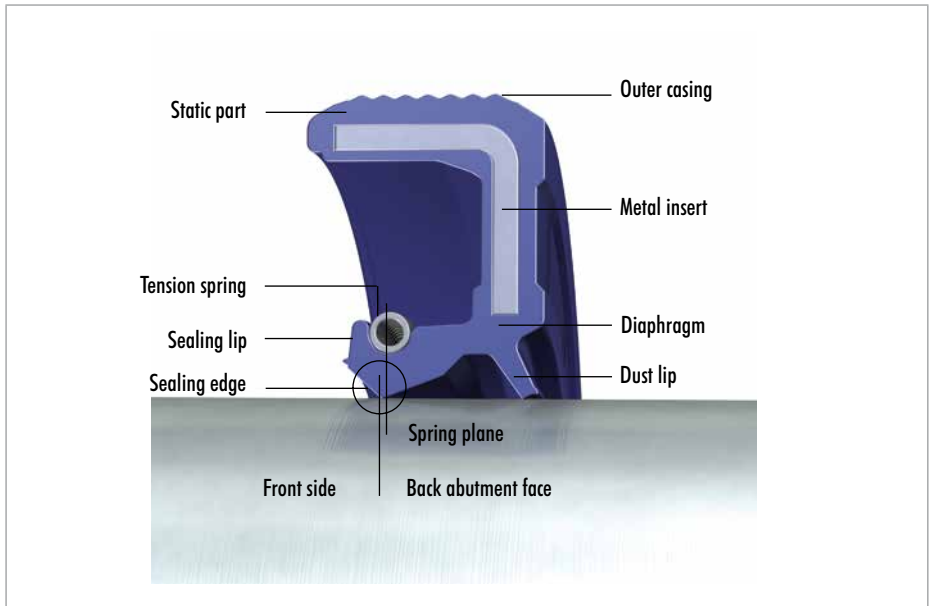

Fig. 1 Important parameters on a Simmerring®
- Made from elastomer with integrated metal insert (→ Fig. 1)